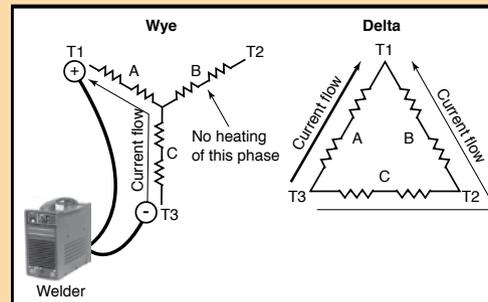

Figure 3 - Drying windings with a welder or other DC power source.
For starters most electric motors large enough to warrant consideration have three leads—one per phase. Internally, they are connected either wye (Y) or delta ( $\Delta$ ), as shown in Figure 3. (Incidentally, the terms wye and delta come from the Greek letters that they resemble.)